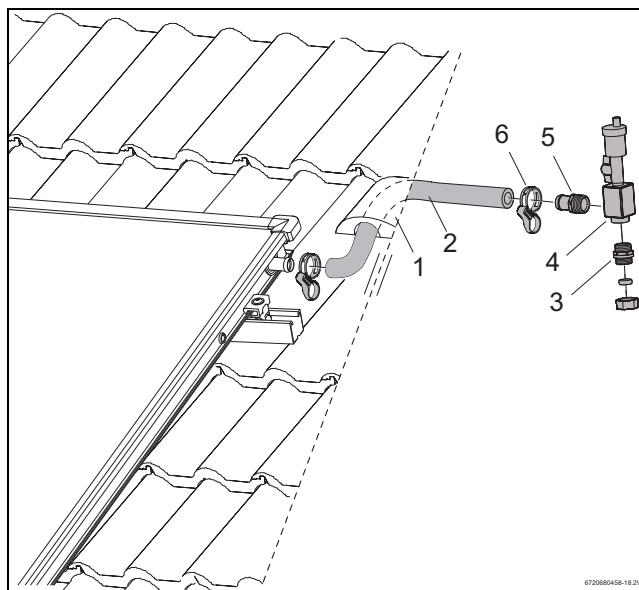

Fig. 51 Assemble the solar hose to the flow connection
- Fix the long solar hose (1000 mm, Fig. 51, [2]) to the flow connection of the collector array and secure with hose clip.
- Route the hose together with the probe cable along the ventilated tile (Fig. 51, [1]) and along the rooftop insulation.
- Tighten the hose end reducer $R\frac{3}{4}$ with the O-ring and the (Fig. 51, [5]) and the barrel nipple with the O-ring (Fig. 51, [3]) in the air chamber (Fig. 51, [4]).
- Push the hose end as far as it can go into the solar hose and fix with hose clip (Fig. 51, [6]).
- Connect the collector pipes to the locking ring threaded connection (Fig. 51, [3]).